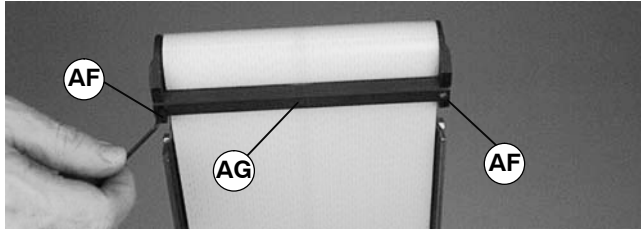

Figure 18
1. If installed, loosen two set screws (AF of Figure 18) to remove and retain bottom wiper(s) (AG).